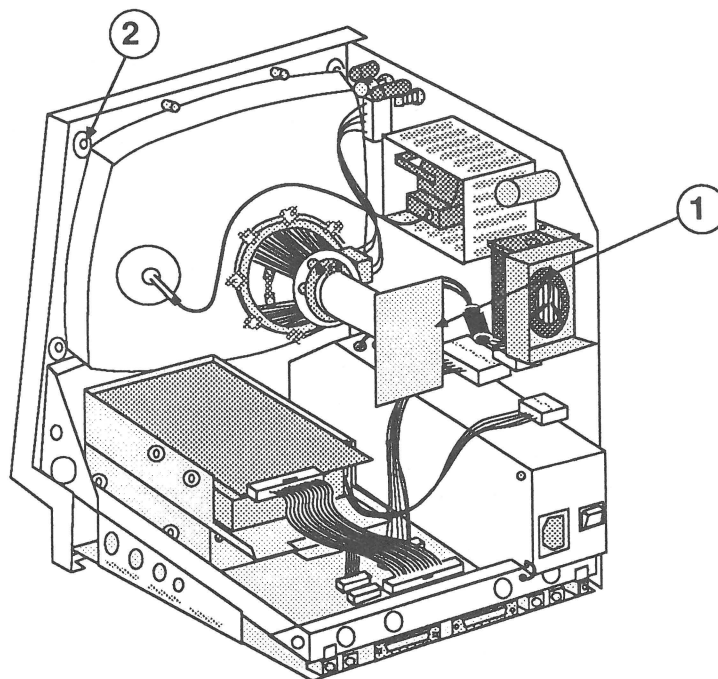

FIGURE 28
4. Replace the video board (Figure 28, #1).
Note: Directions for replacing the fourth CRT mounting screw (Figure 28, #2) are included in the video board procedure.